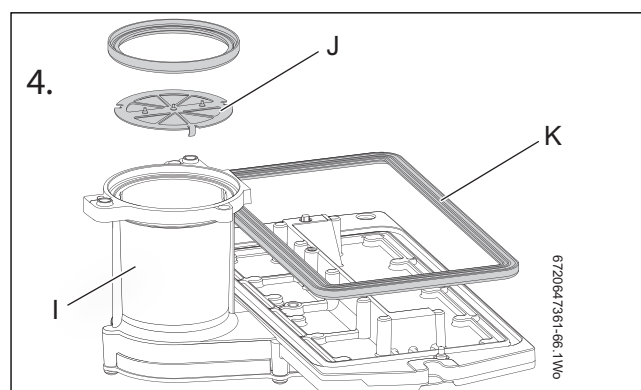

Fig. 85 Diaphragm
- ▶ Remove the burner (H).
- ▶ Ensure that a new seal (K) is used, refer to fig. 85.